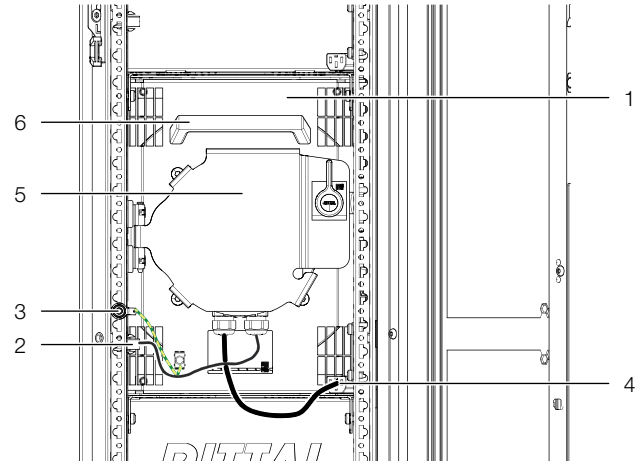

Fig. 51: Fan module in fan tray
- Release the two fan connectors DC and AC on the left and right (fig. 51, item 2 and 4).
- Disconnect the earth connection on the fan (fig. 51, item 3).
When making the connection, ensure that both cables of the fan are not routed too close parallel to each other over longer paths. Fig. 51 shows an optimum laying of the cables.